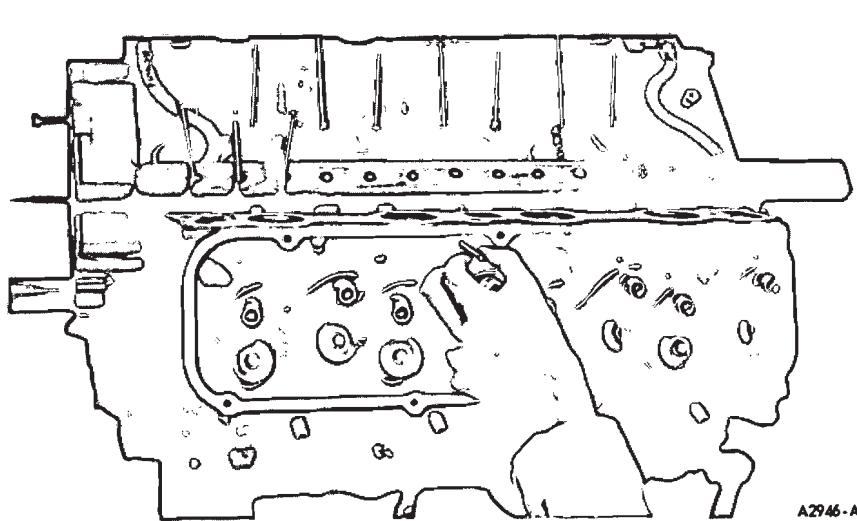

FIG. 11—Removing Valve Push Rod
- Remove valve rocker arm covers. Loosen rocker arm stud nuts and turn rocker arms to one side. Remove push rods in sequence (Fig. 11) so they can be installed in their original positions.